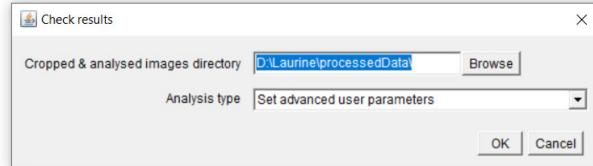

Figure 8.4. The check results window
STEP 6. Check the segmentation results using the Start Checking results button. The “Check results” window pops up (figure 8.4).